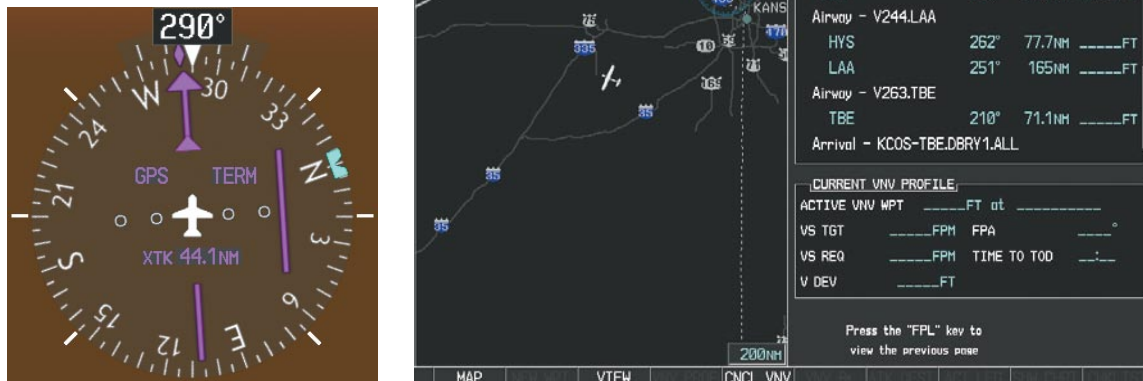

Figure 5-103 Assigned Heading of 290°
- 3) ATC now assigns routing to join V4. A heading of 290° is assigned to intercept V4. The aircraft turns to heading 290° as seen in Figure 5-103.